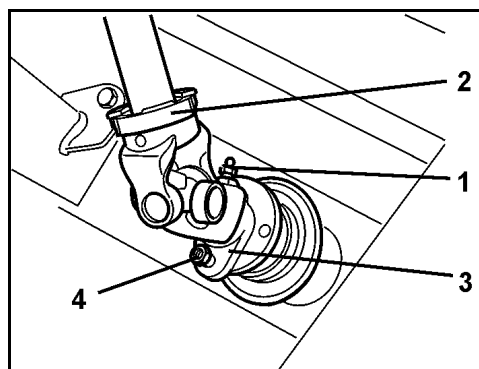

Fig. 46
6. Remove the grease nipple (Fig. 46/1) and attach the PTO shaft (Fig. 46/2).
7. Secure the connection fork (Fig. 46/3) into place using a shear pin (Fig. 46/4).
8. Screw in the grease nipple (Fig. 46/1).